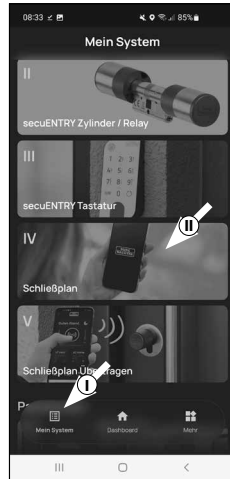

Fig. 1
- 1 Open the "My System" menu (I) (Fig. 1).
- 2 Tap on the fourth menu item "IV - Locking plan" (Fig. 1).